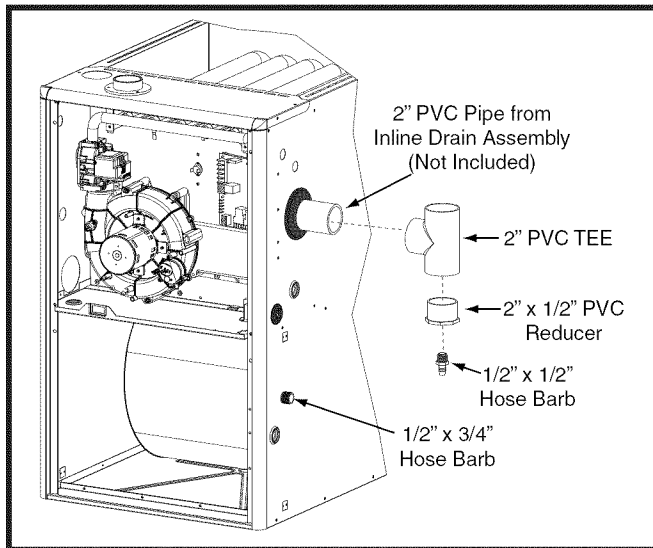

Figure 22. 2" PVC Tee, Reducer & Hose Barb
The 2" PVC tee, reducer, and hose barb are used when the inducer is rotated to vent out thru the left or right side of the furnace cabinet. See Figure 22 (page 20).
- The 2" PVC pipe shown in Figure 22 is not provided in the extra parts bag.